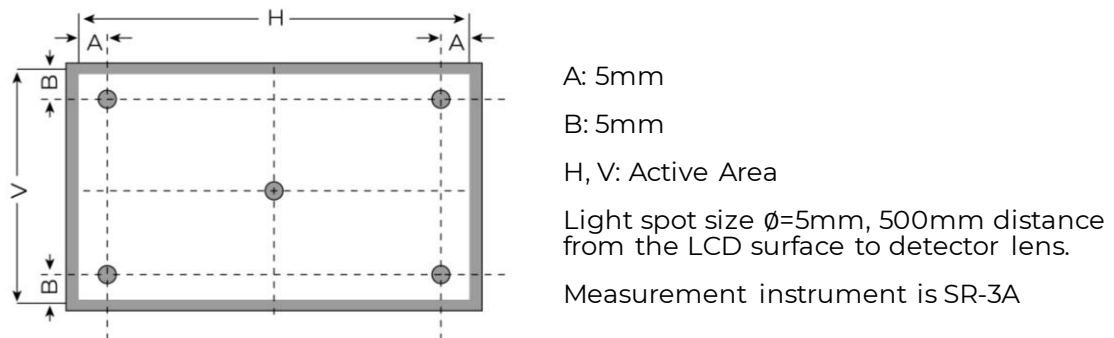

Figure 3. Measuring method for Contrast ratio, surface luminance, Luminance uniformity, CIE (x, y) chromaticity
| Viewing Angle Range     | $\theta$          | $\phi = 90^\circ$                                            | 75   | 85   | -    | deg               | FIG 3. | 6    |
|                         |                   | $\phi = 270^\circ$                                           | 75   | 85   | -    | deg               | FIG 3. |      |
|                         |                   | $\phi = 0^\circ$                                             | 75   | 85   | -    | deg               | FIG 3. |      |
|                         |                   | $\phi = 180^\circ$                                           | 75   | 85   | -    | deg               | FIG 3. |      |
**Note 6.** Viewing angle is the angle at which the contrast ratio is greater than 2. For TFT module the contrast ratio is greater than 10. The angles are determined for the horizontal or x axis and the vertical or y axis with respect to the z axis which is normal to LCD surface. For more information see Figure 3.